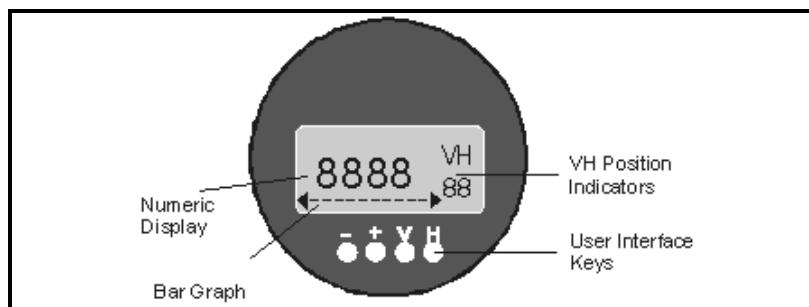

Figure 4-2: The MMY30 Optional Display
The display of the DewPro MMY30 continuously shows the current matrix location using the vertical (V) and horizontal (H) coordinates to designate the row and column, respectively. The bar graph represents the output current in an analog fashion (refer to Figure 4-2 above). See Appendix A for an enlarged overview of the matrix with all possible options, shown in Table 4-1 below.